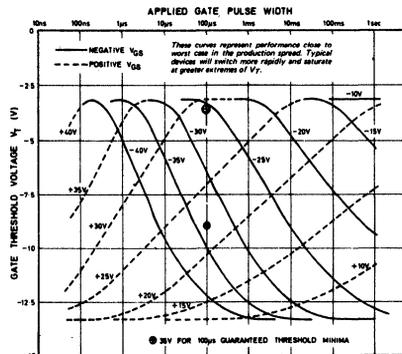

Fig. 7 Write/Erase switching speed characteristics
5. Refer to Fig.7 and select a convenient compromise between pulse amplitude and width to give the initial threshold voltages established in (4) above.
By interpolation Fig.5 shows that initial threshold voltages of $V_{TL} \approx -3.5\text{V}$ and $V_{TH} \approx -8.0\text{V}$ will in one week provide a logic window of something over the 3.0V required. Fig.7 shows that these initial threshold voltages could be achieved with an erase pulse of +25V, 100ms and a write pulse of -30V, 400 μ s.